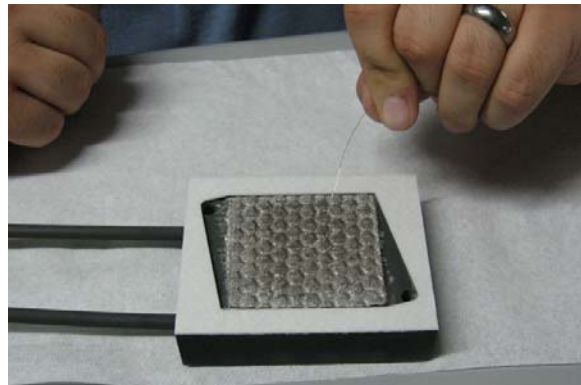

Figure 6
6. Bend small hook into platinum voltage wire and place in the middle of the Ni mesh on the anode manifold (Figure 6)